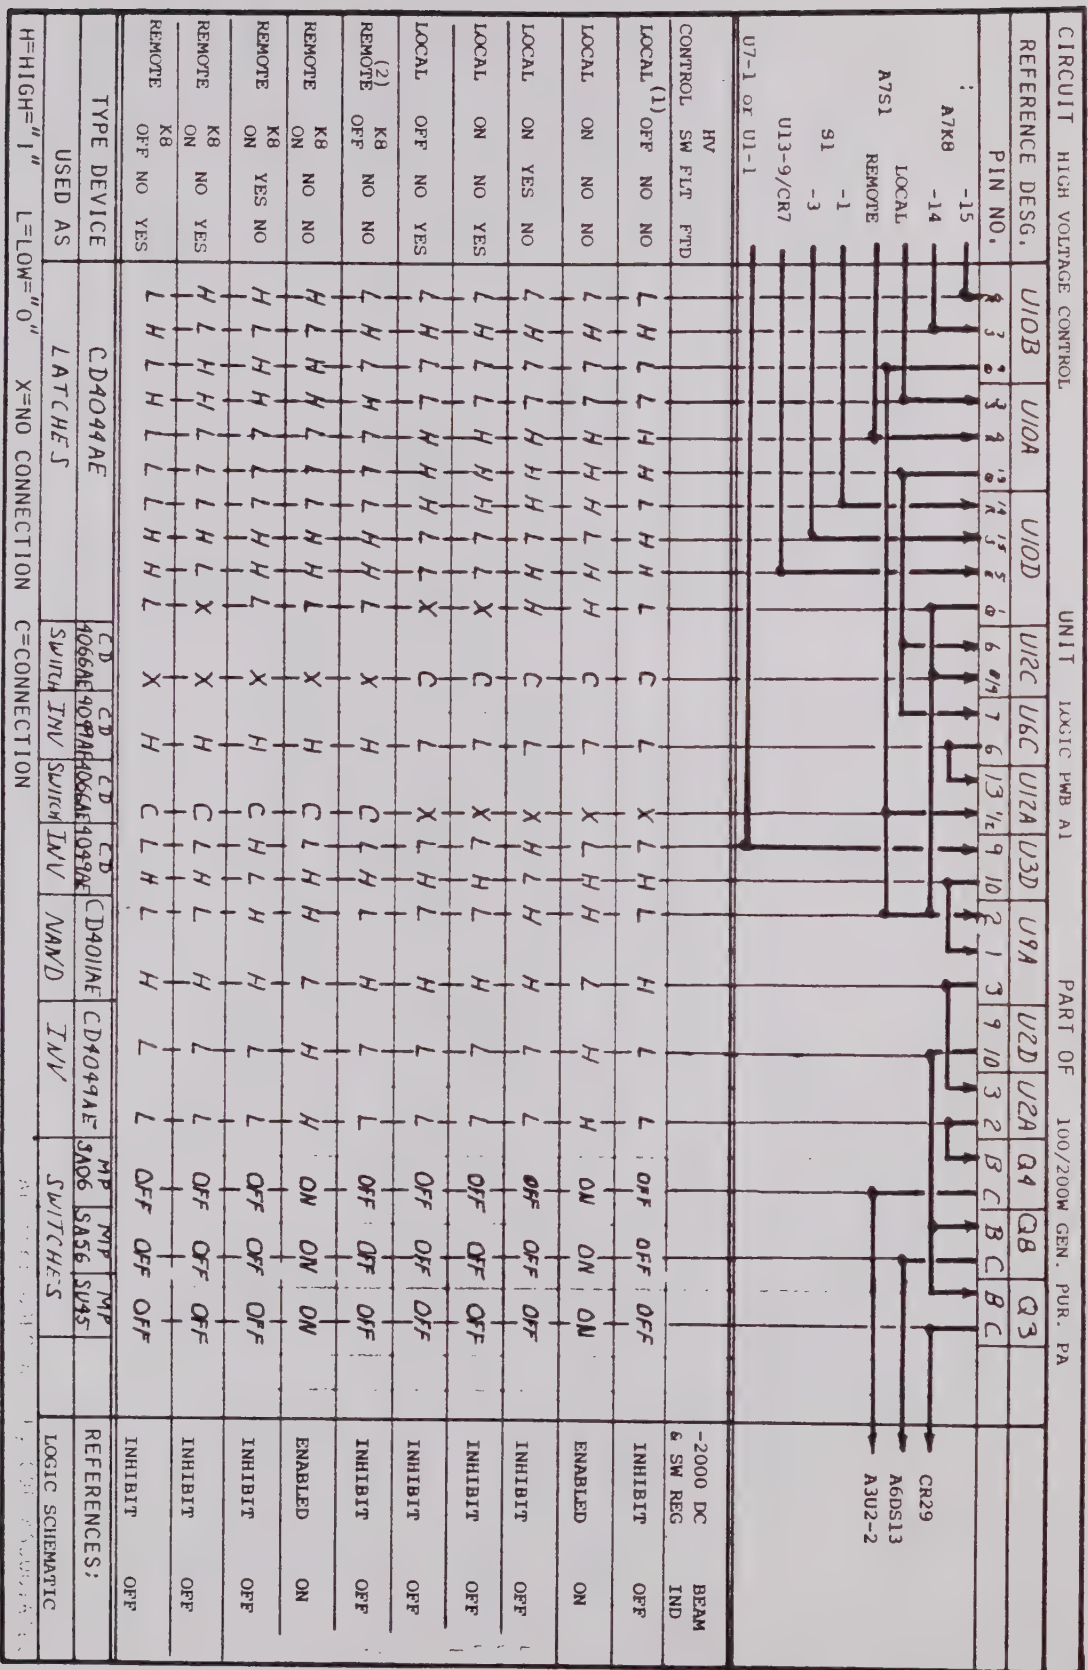

FIGURE 5-13 HIGH VOLTAGE CONTROL-COMPOSITE PRESENTATION OF SIGNAL PATHS AND LOGIC STATES
Actuation of relay 1A7K8 of Remote Control PWB A7 by closing a remote switch to ground pulls U10B-7 to a logic low (0) state. When U9A-2 is in the "1" state, HV ON has been selected. If there is no fault, U9A-1 will be "1" and HV will be turned-on to the TWT and "BEAM ON" will light on the Front Panel and give a remote status indication. The logic state associated with high voltage control for different input conditions is shown in Figure 5-13.